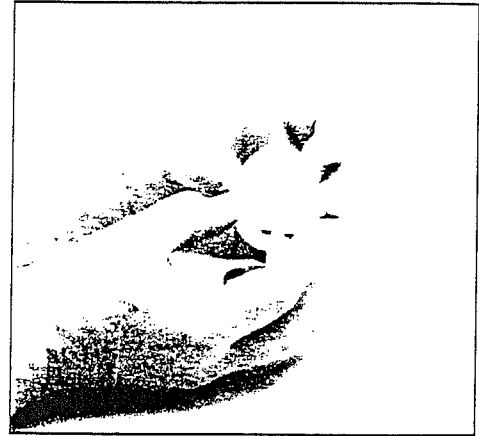

Figure 5
- 5) With a new piston, line up the connecting rod on the posts inside the piston and on the lever. Snap the connecting rods together. (See Figure 5).